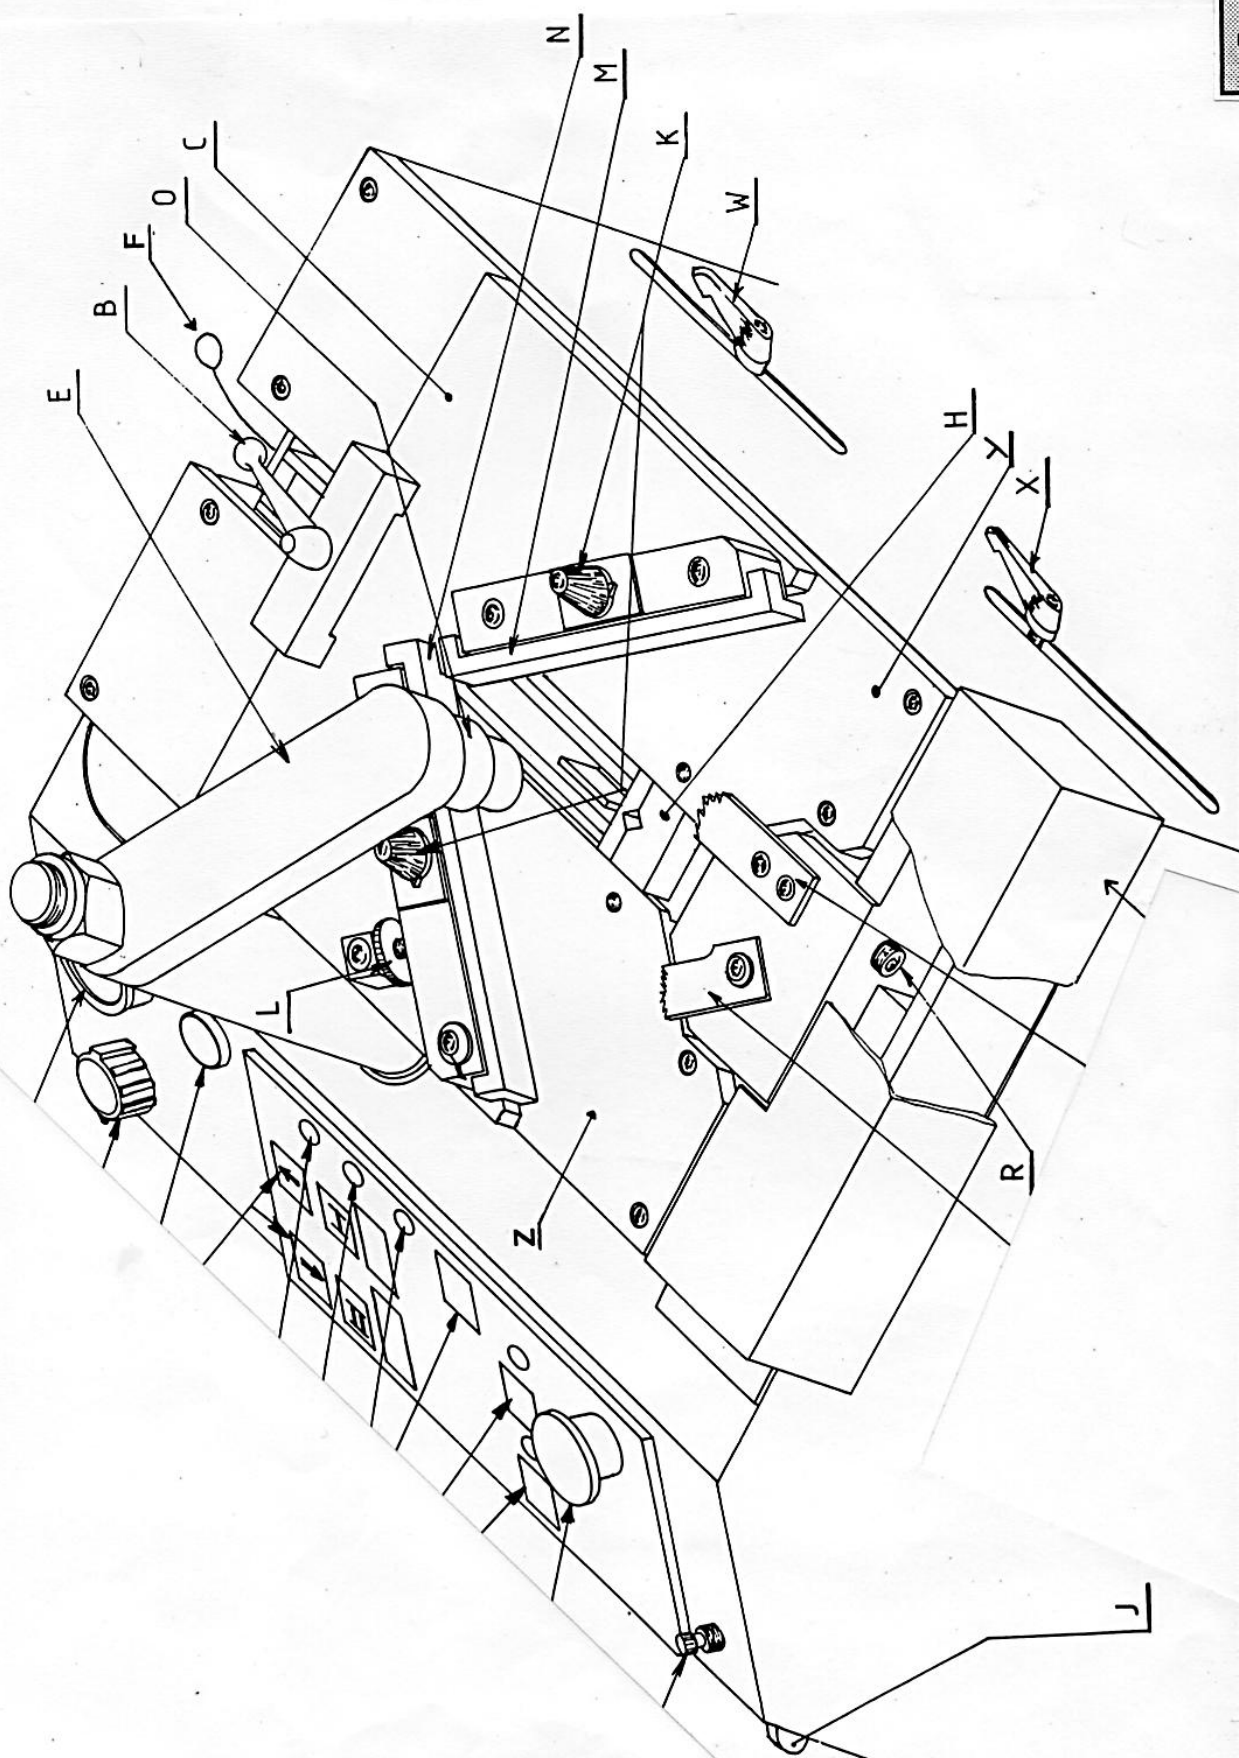

FIGURE 1
- 2) Reassemble levers X, W and B (Fig 1), without tightening them, to replace the screws used for transport.
**N.B. :** For all start-up and adjustment procedures described in these instructions, the user is assumed to be at the **FRONT** of the machine on the keyboard side as shown in FIGURE 1.
### I - ADJUSTING THE SLIDING TABLE (see Fig 1) :
#### V - INSERTING OR CHANGING THE STAPLE CARTRIDGE (FIGURE 1 - item F) :